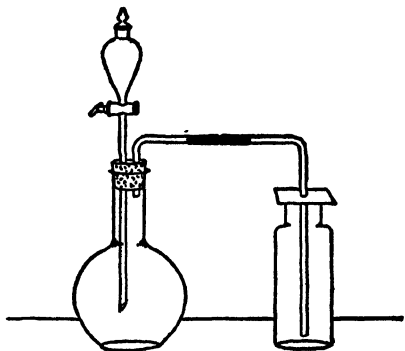

FIG. 19.
c. [Hood.] In a 250 c.c. flask (Fig. 19), fitted with dropping-funnel and L-shaped delivery tube, place about 30 g. of common salt. Use the shortest possible rubber connections here, and in 41 b (chlorine), as rubber tubing is destroyed by these gases. Admit concentrated sulphuric acid through the funnel. Collect the gas in three dry bottles by upward displacement, allowing the tube to pass through a perforated square of paper or card so that the gas may not escape into the room. Cover, when filled, with glass plates and reserve for 37. Place about 10 c.c. of distilled water in a test-tube, attach a nozzle to the delivery tube, and allow the gas to bubble into this for a few minutes (?). Reserve the aqueous solution also for 37. Write equations for the two possible interactions of salt and sulphuric acid. Which of the two takes place under the above conditions?
a. [HOOD.] Fit up a 250 c.c. generating flask, as in Fig. 19, with a dropping-funnel and an L-shaped glass tube attached to the exit tube. Use the shortest possible rubber connections here (?). Test the apparatus to see that it is air-tight. Place in the flask about 20 g. of dry potassium permanganate, and fill the globe of the dropping-funnel with diluted, concentrated hydrochloric acid (1 water : 3 acid). [CAUTION! Do not use any other acid, by mistake.] Allow the delivery tube to dip to the bottom of a small beaker containing a little sodium hydroxide solution. Now admit the acid drop by drop, regulating the flow so that too rapid a stream of gas is not produced. The complete displacement of the air in the flask will be recognized by the color of the contents and the fact that the bubbles of pure chlorine are completely absorbed by the sodium hydroxide.